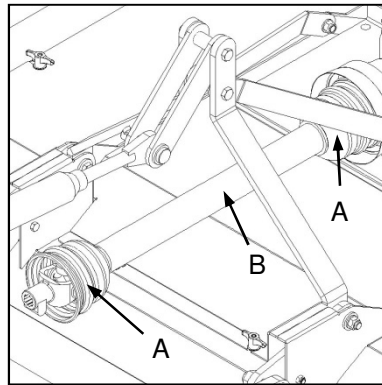

Fig. 10 (F210 TurfPro)
- ✔ Apply grease to the universal joints (Fig. 10-A) and telescopic tubes (Fig. 10-B) of the PTO drive shaft.
- ✔ Ghries die kruiskoppelings (Fig. 10-A) en teleskopiese buise (Fig. 10-B) van die kragtakkeras.